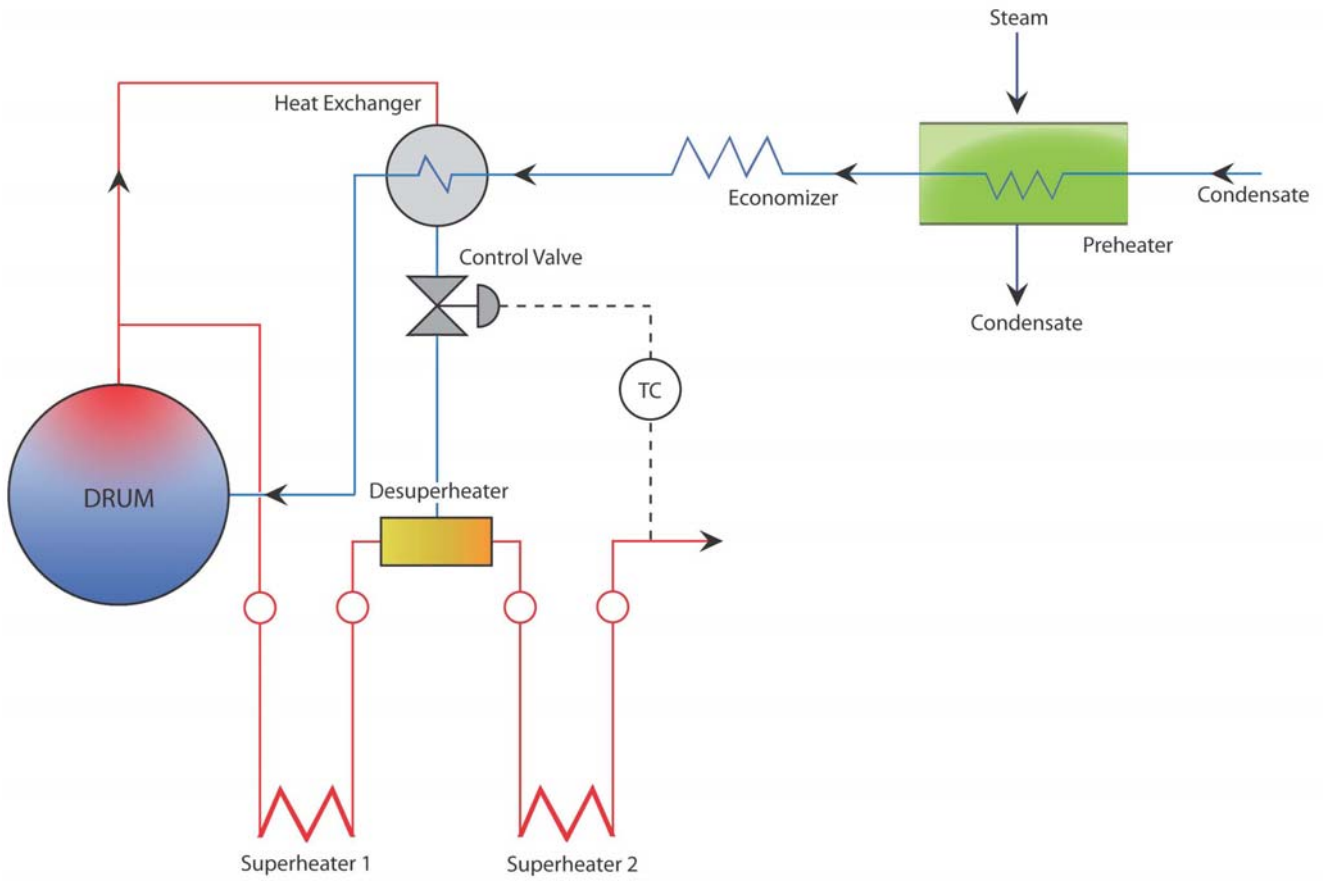

FIG 3: (Addendum) Schematic of sweetwater condensing system used for superheated steam temperature control over turndown.
- Since the customer did not want to inject the condensate directly into the steam for superheater temperature control, a sweetwater condensing system was utilized (Fig 3). This approach ensures high purity at the main steam outlet since it avoids adding the solids typically entrained in boiler feed water (or condensate in this case). A heat exchanger located between the economizer and the steam drum is used to condense steam into water, which is used for spray attemperation. Calculations had to be done at various loads to ensure the physical location of the exchanger provided adequate head for spray after accounting for the line and superheater steam side losses.